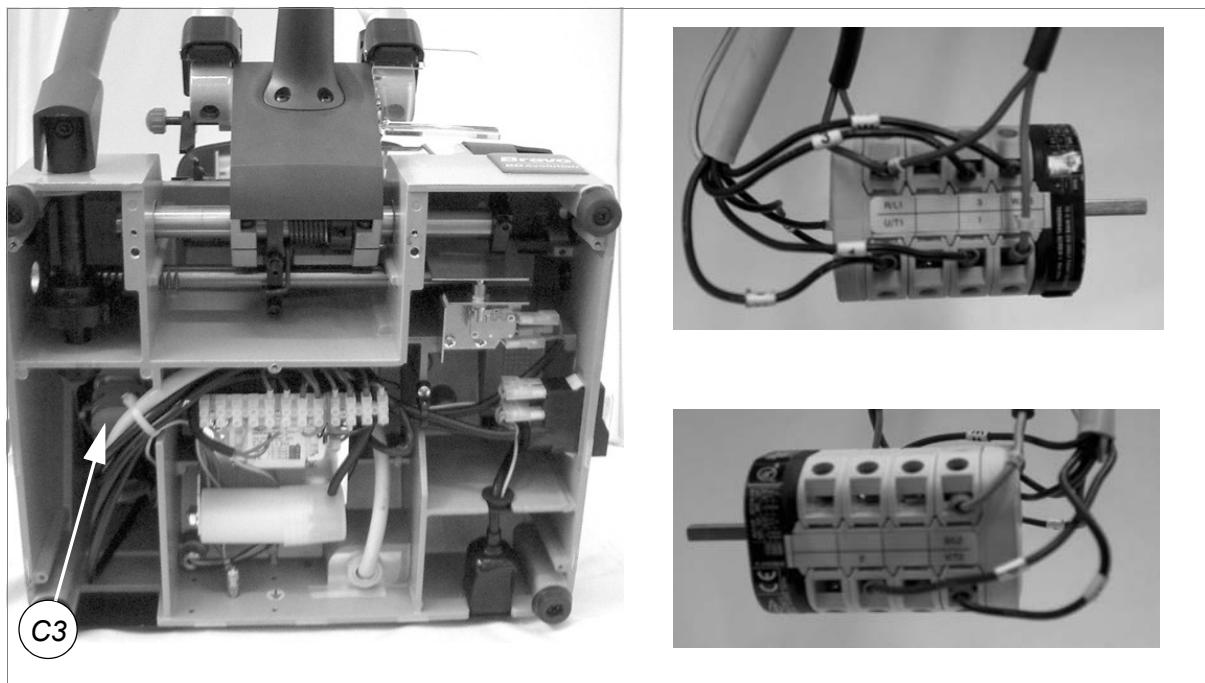

Fig. 38
- 6) Pull the commutator (C3) downwards and disconnect the wires from their connections in order to remove (fig.38). **Pay attention to their position.**
- 9) Pull the commutator downwards (fig. 38, page 27) and disconnect the 6 motor wires from their connections (fig.44).